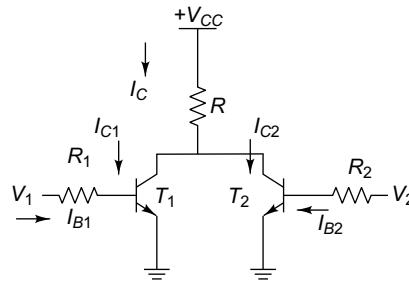

Fig. 6.49 Circuit of Ex. 6.30
6.30 Determine I_{B1} , I_{B2} , I_{C1} and I_{C2} for the transistor T_1 and T_2 as depicted in Fig. 6.49. Consider $R_1 = R_2 = 1.5 \text{ k}\Omega$, $R = 4.7 \text{ k}\Omega$, $V_{CC} = 5$ V, $h_{fe} = 50$, and $V_{CE} = 0.2$ V.